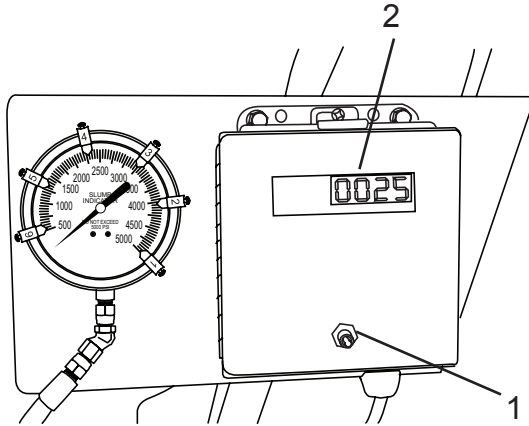

Figure 109
1. Before discharging, press the reset switch (Figure 109, Item 1) to reset the counter display (Figure 109, Item 2).